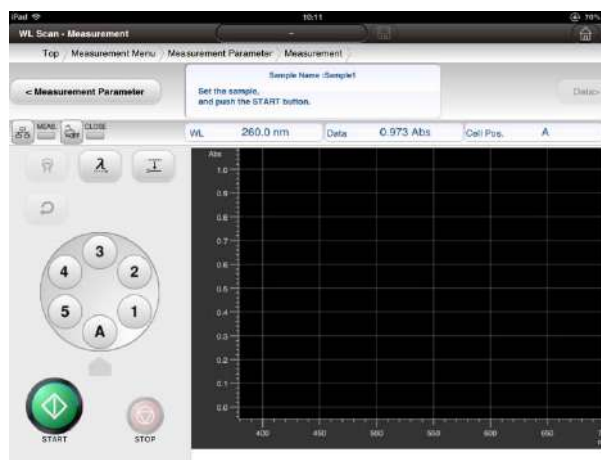

Fig. 4-133 Sample Measurement Window
- (1) When baseline correction is completed, the guidance on sample measurement (Fig. 4-133) will be shown. Set a sample at the present cell position. Then, press  [start button] icon to start measurement.